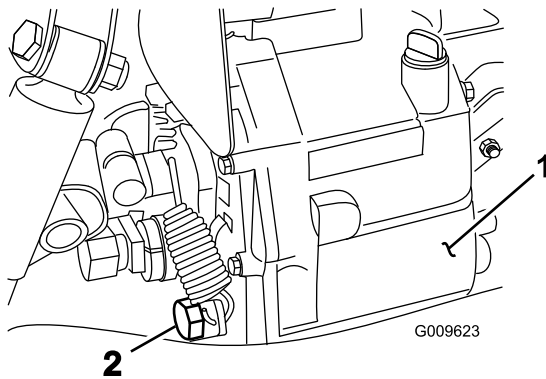

Figure 67
2. Remove the drain plug from the side of the reservoir and let the hydraulic fluid flow into a drain pan (Figure 67).